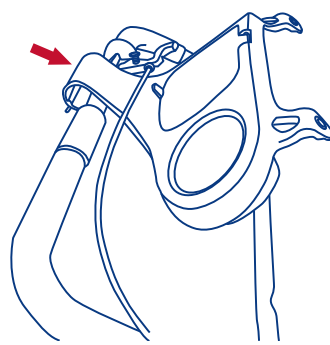
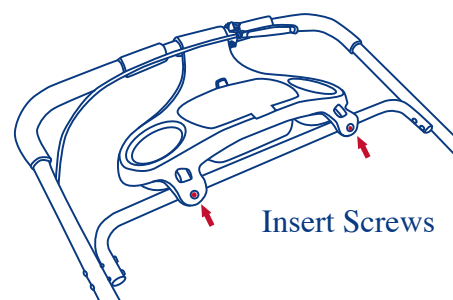

Figure 9A.
Figure 9B.
- To attach the parent tray, position the parent tray in the center of the stroller handle. Snap the upper portion of the tray over the handle as shown in figure 9A. Attach the lower portion of the parent tray to the cross tube, with the screws provided, as shown in figure 9B.